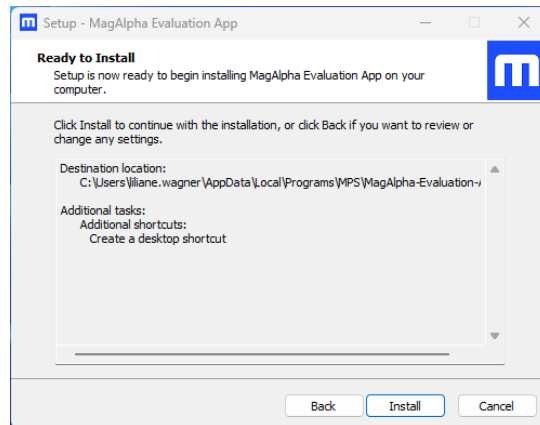

Figure 12: Installation Wizard (Installation Overview)
5. Click “Install” (see Figure 12).